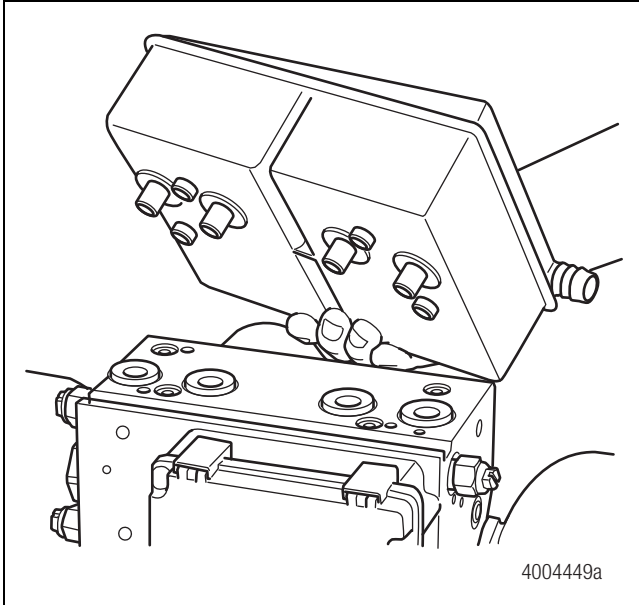

Figure 4.12
5. Position the reservoir on the HCU and verify orientation: The mounting screw holes must line up and the inlet port for the low pressure hose must face the front of the HCU. Figure 4.12.